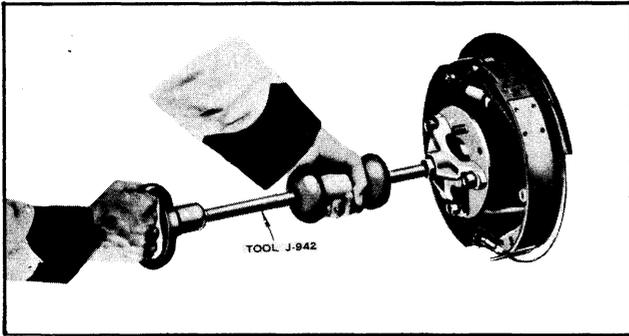

Fig. 6-6 Removing Axle Shaft
5. Withdraw axle shaft and bearing assembly. Use Tool No. J-942 if bearing is a tight press fit in the axle housing. (See Fig. 6-6)